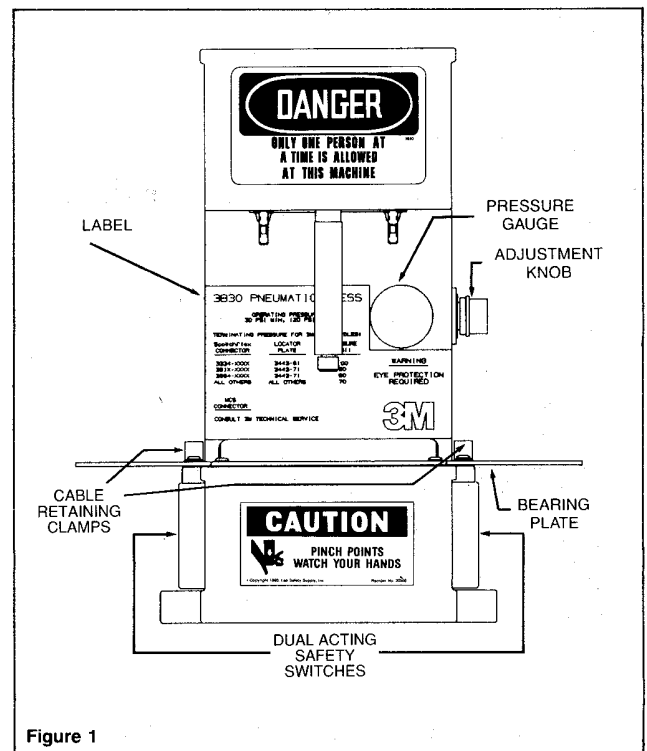

Figure 1
Turn the ON/OFF switch to "ON". Observe the pressure gauge. Adjust the pressure using adjustment knob located toward the rear and in the middle of the right side of press (Figure 1). Follow the guidelines for Operating Pressure as established on the label located on the machine face (Also shown on Figure 1).
1. Place the desired locator plate on the Bearing Plate. (See Figure 1)